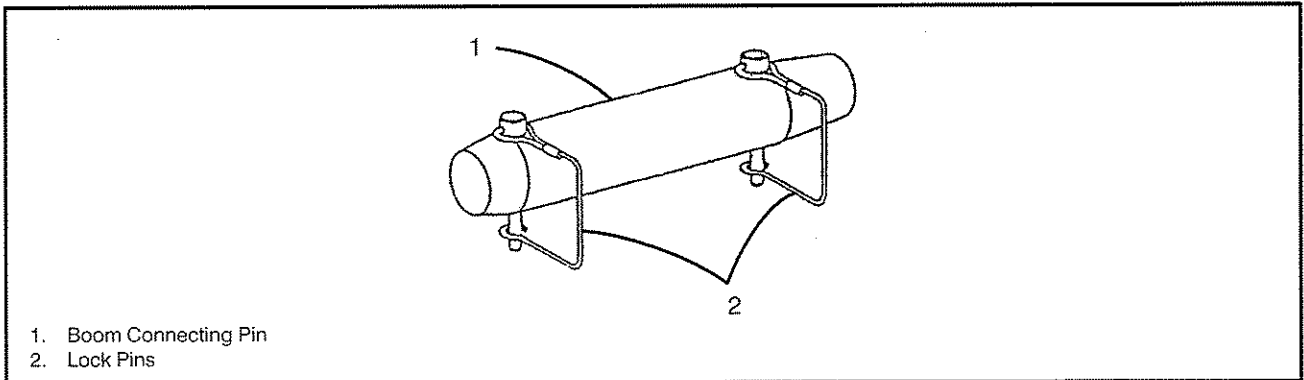

Figure 4-7
3. Drive connecting pin through the boom connection from outside to the inside of the boom. Install lock pins in both ends of boom connecting pins. See Figure 4-7.